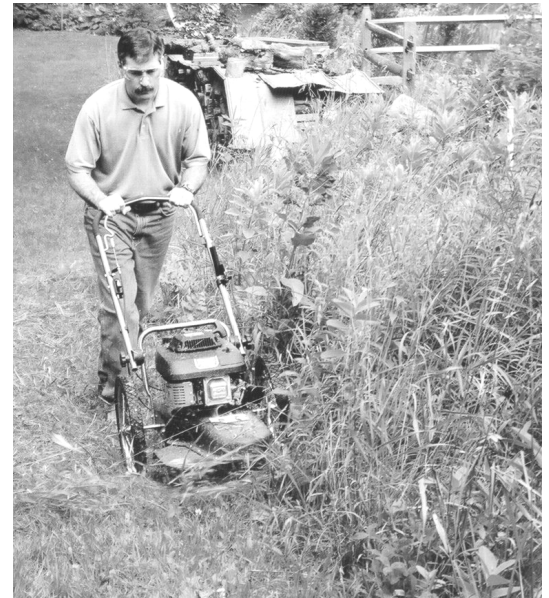

*Figure 21*
- Many owners like to mow easy, open areas with their regular riding or walk-behind mower and finish trimming all the odd and hard-to-reach spots with the DR TRIMMER/MOWER (*Figure 21*).